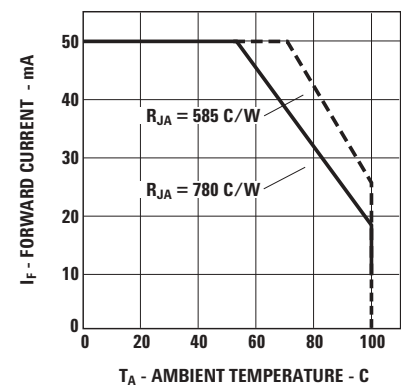

Figure 4. Maximum Forward Current vs. Ambient Temperature.
1. Derate linearly as shown in figure 4.